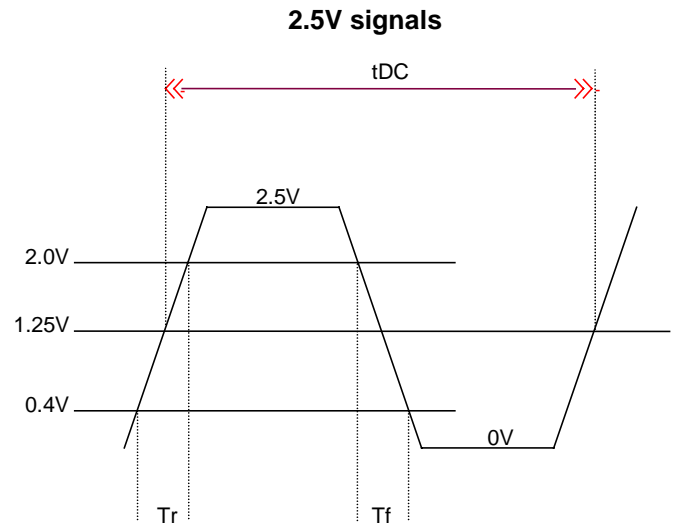

Fig.10B
**Note 3:** Probes are placed on the pins, and measurements are acquired between 0.4V and 2.4V for 3.3V signals and between 0.4V and 2.0V for 2.5V signals (see Fig.10A and Fig.10B)